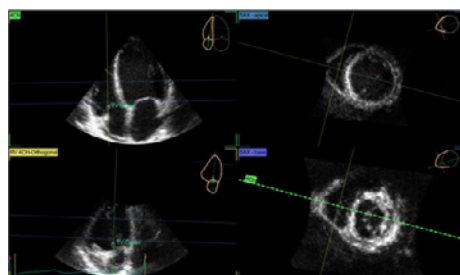

Figure 1. Alignment
The workflow is divided into stages accessible both through the touch panel as well as on the main screen. When entering the tool, the first step is to adjust 2D gain and zoom if needed. These controls are available throughout the remaining stages to always ensure optimal image quality. Then at the **Alignment** stage (see Figure 1) one can quickly adjust the vertical axis so that it crosses through the Tricuspid Valve (TV) center point and the RV apex. The lower horizontal plane is parallel to the tricuspid valve at the base, while the upper horizontal plane is at the center of the RV. The alignment is done in 4 chamber and orthogonal 4 chamber views.